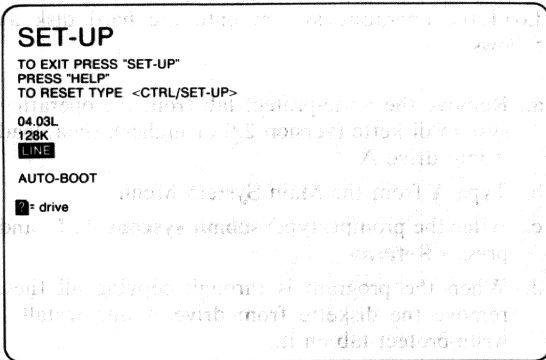

Figure 2-8 Auto-Boot Set-Up Menu (PC100B only)
Figure 2-8 shows the Auto-Boot Set-Up menu. You use this menu to enable one of the diskette drives (A, B, C, or D) or a hard disk drive (W) to load the operating system automatically. The default (represented by a "?" on your screen) is no device selected.